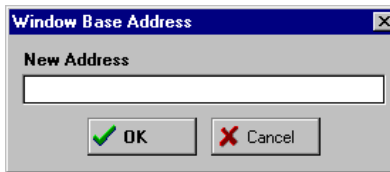

Figure 6-5. Window Base Address Dialog
- **Set PC at Cursor:** Choose this option to set the Program Counter (PC) to the current cursor location.
- **Goto! Address at Cursor:** Choose this option to execute the source code until the Program Counter (PC) gets to the line at the current cursor location. When PC gets to that point, execution stops.
- **Set Base Address:** Choose this option to open the *Window Base Address* dialog (Figure 6-5) and set the new address for the first code line in the Code Window.